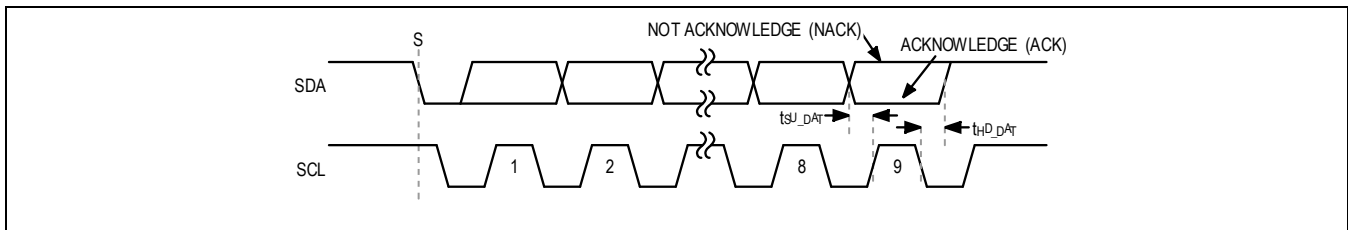

Figure 34. Acknowledge Bit
Both the I²C bus master and slave devices generate acknowledge bits when receiving data. The acknowledge bit is the last bit of each ninth-bit data packet. To generate an acknowledge (A), the receiving device must pull SDA low before the rising edge of the acknowledge-related clock pulse (ninth pulse) and keep it low during the high period of the clock pulse. See Figure 34. To generate a not-acknowledge (nA), the receiving device allows SDA to be pulled high before the rising edge of the acknowledge-related clock pulse and leaves it high during the high period of the clock pulse.